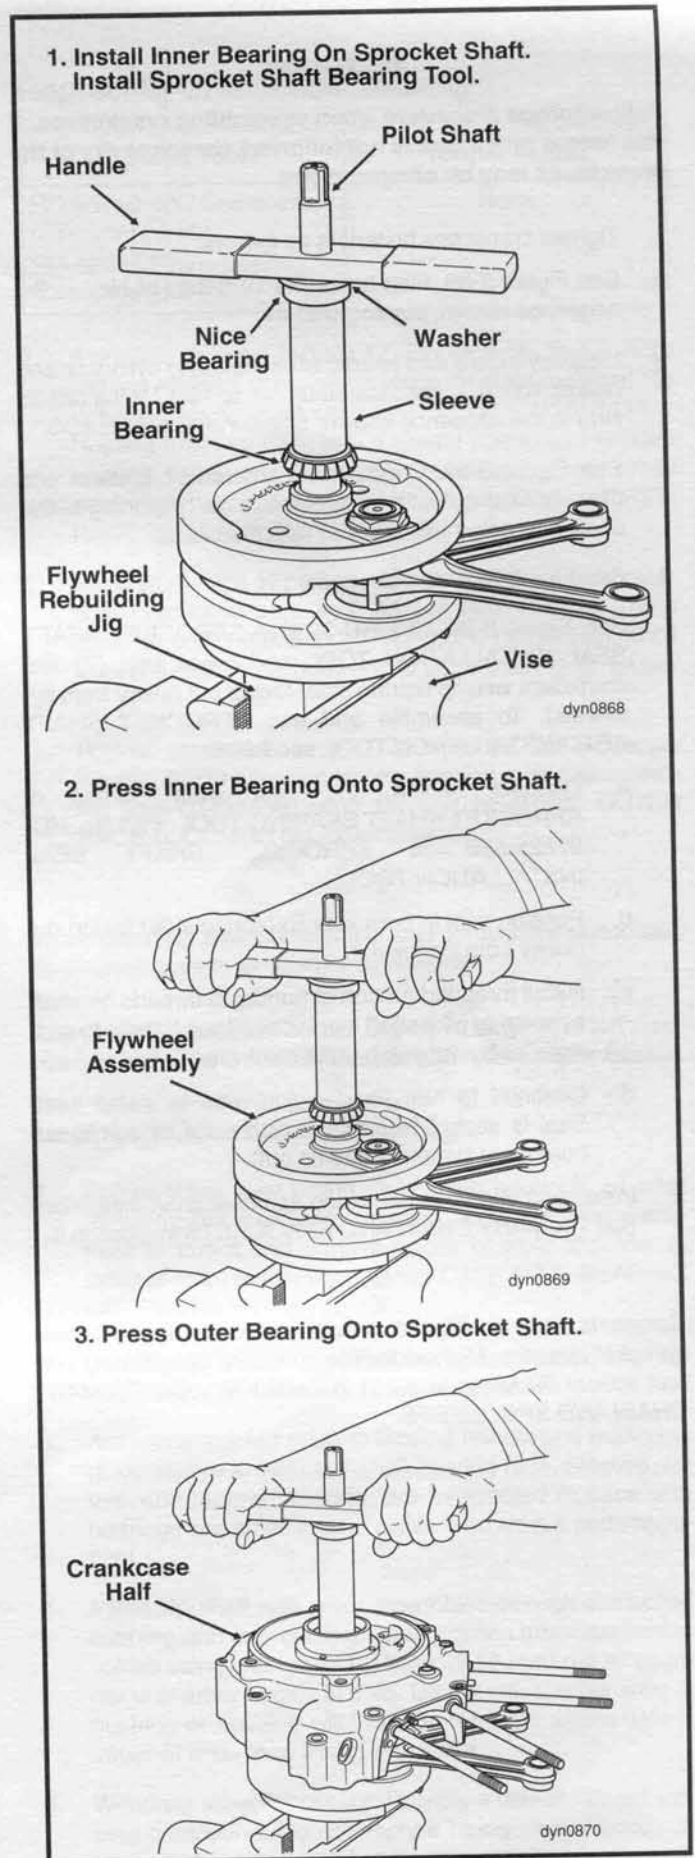

Figure 3-87. Press Inner and Outer Bearings onto Sprocket Shaft
3. Assemble SPROCKET SHAFT BEARING TOOL as described below. See Figure 3-87.